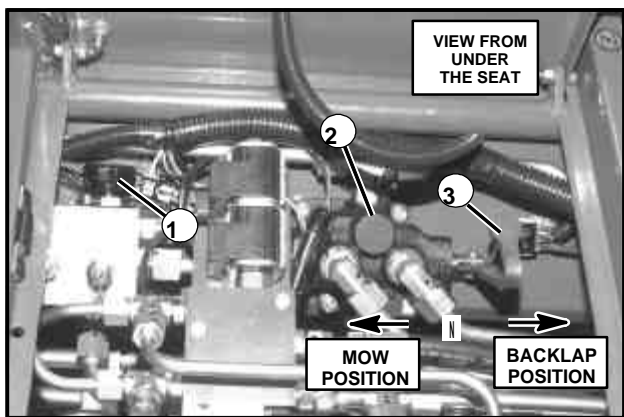

Figure 36
- 1. Open the restriction valve on the reel valve by turning the knob counterclockwise as far as it will go (See Fig. 36).
2. Set the reel control lever to the right for the backlap position (See Fig. 36).